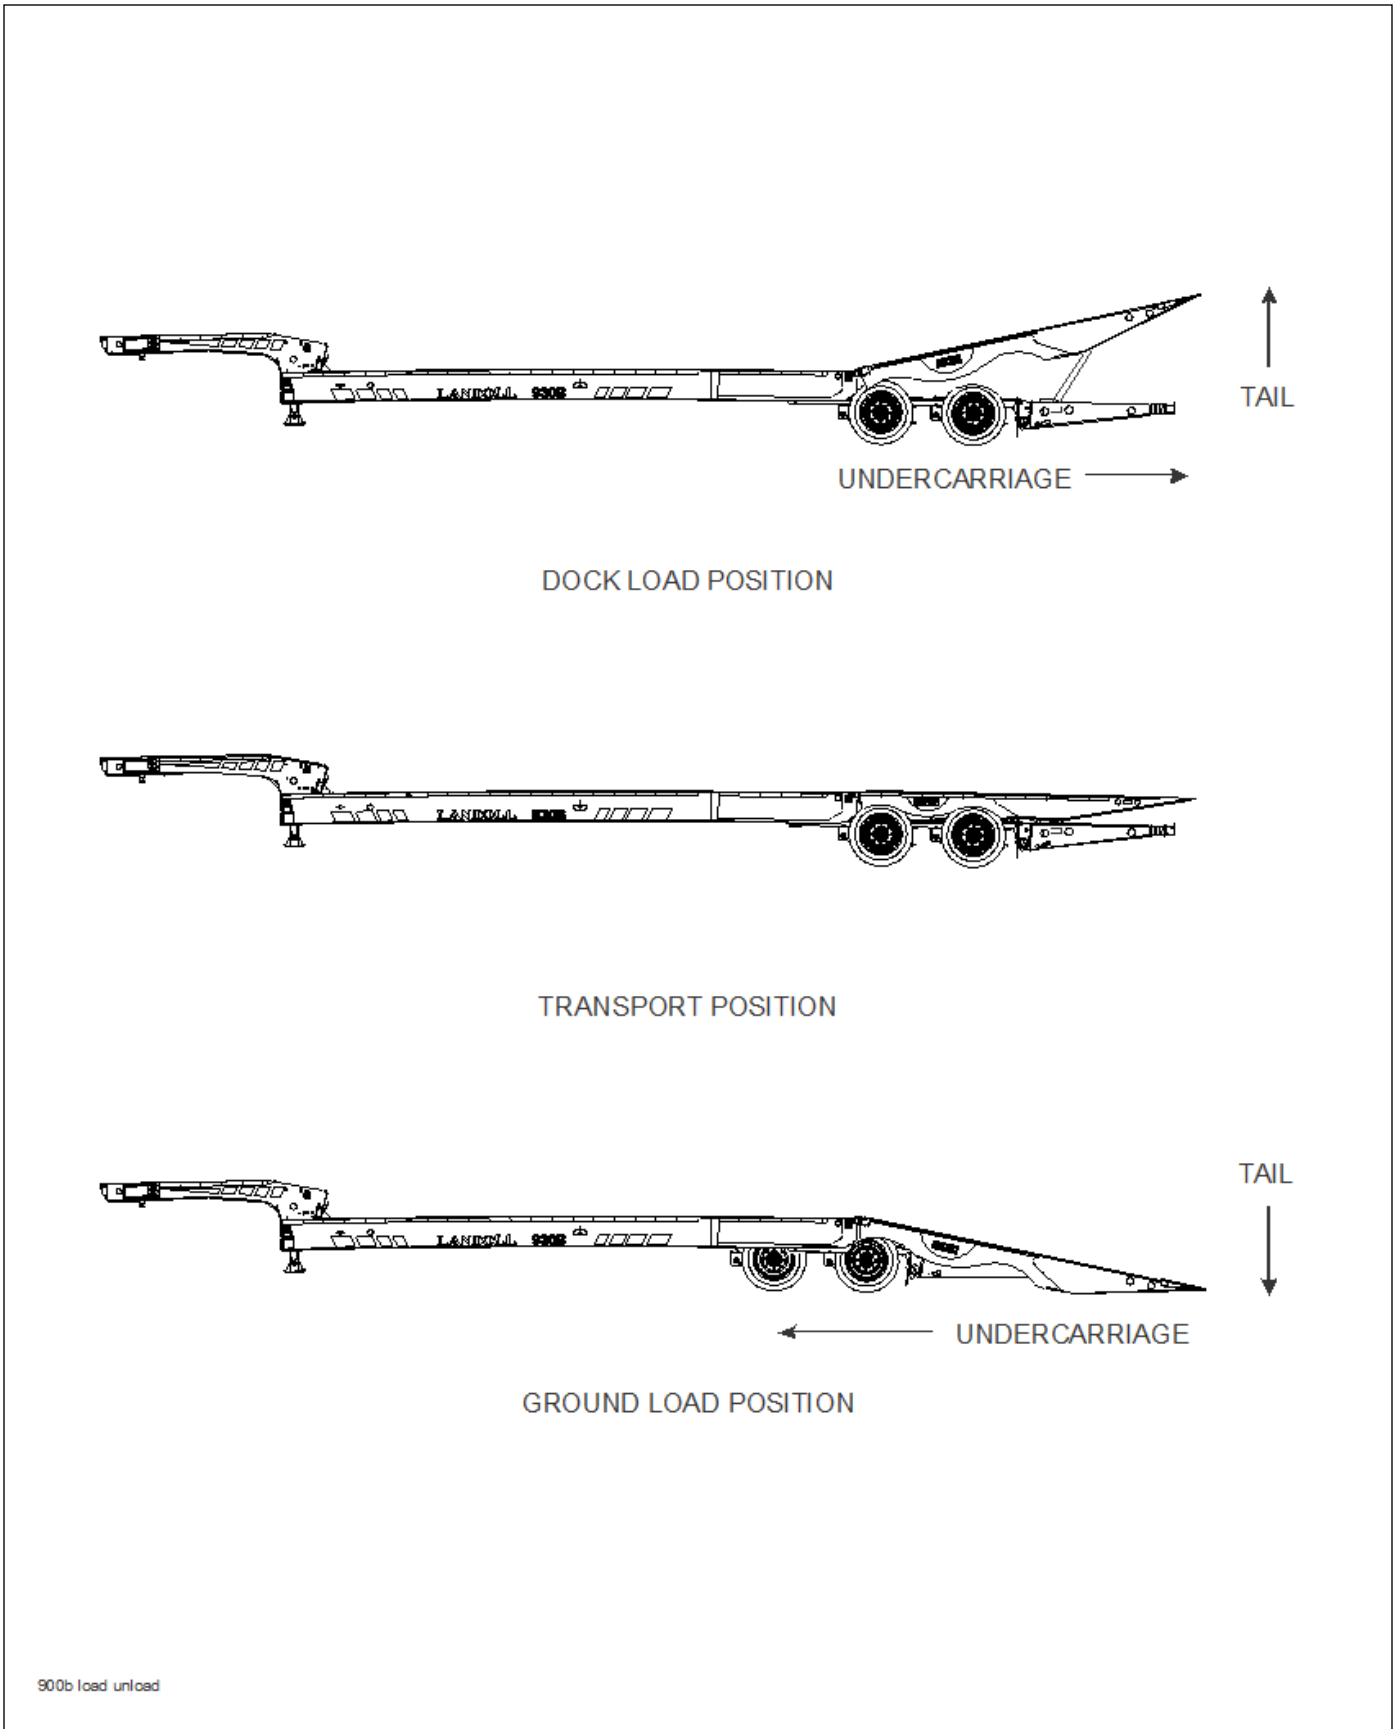

Figure 3-4: Steps for Loading and Unloading
2. Park the tractor/semitrailer in a straight line on level even surface. Set the tractor brakes and release the semitrailer brakes (See Figure 3-4.)
2. Park the tractor/semitrailer in a straight line on a level even surface (**See Figure 3-4.**) Set the tractor brakes and release the semitrailer brakes.